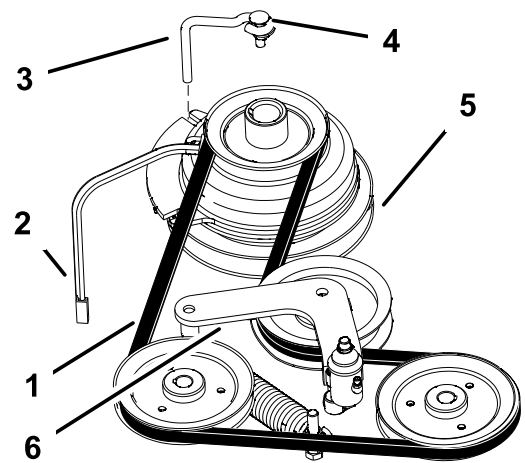

Figure 47
- Remove the bolt from the clutch stop and unplug the clutch electrical wire (Figure 47).
- Remove the traction belt from the engine and the hydraulic pump pulleys (Figure 47).
- Install the new belt around the engine and the hydraulic pump pulleys (Figure 47).
- Release the pressure on the spring loaded idler (Figure 47).